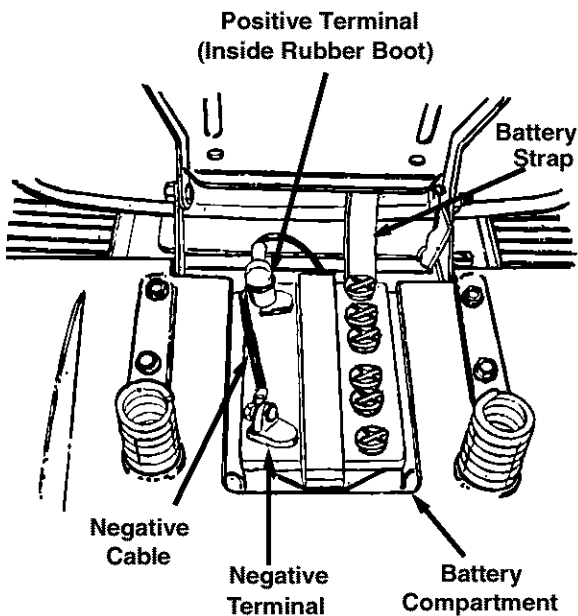

Figure 8
- Make certain both the negative (black) cable and the positive (red) cable are routed up through the battery compartment as shown in Figure 8.